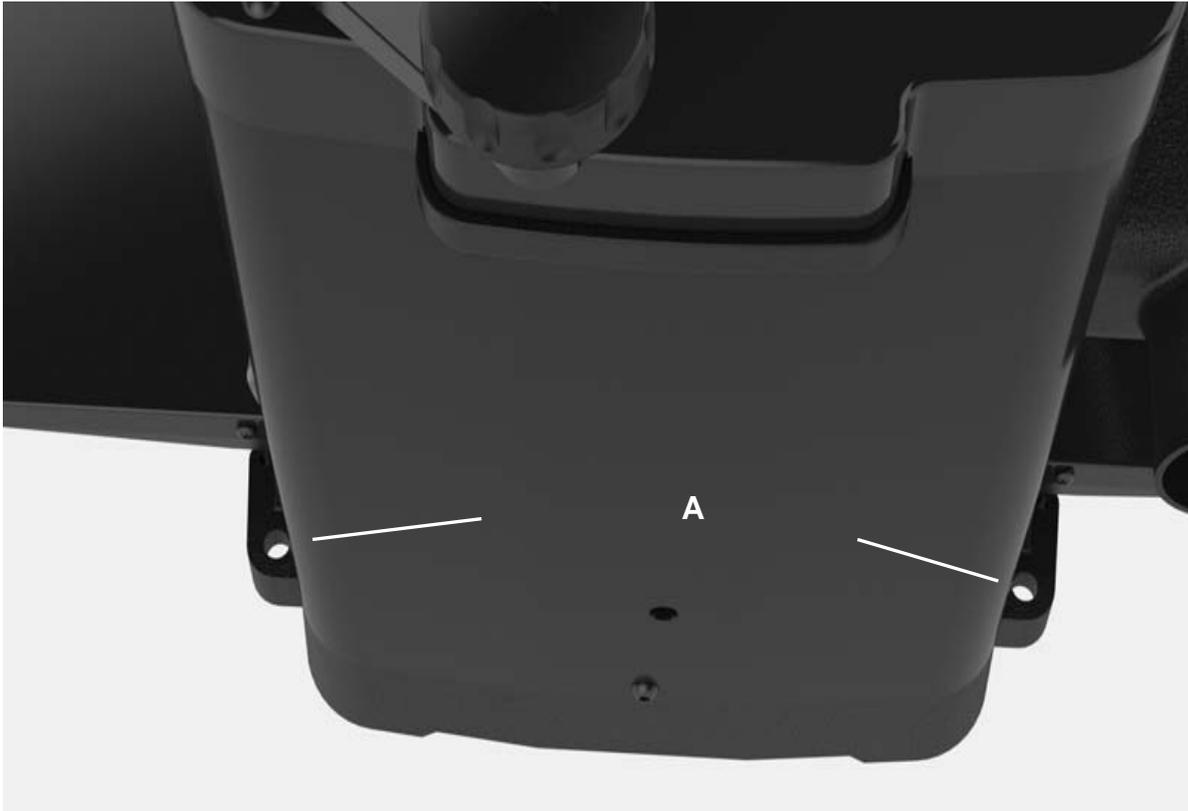

FIG 3
During operation, if there is any tendency for the planer to tip over, slide or walk, the planer MUST be secured to a supporting surface such as a workbench or table. Four holes are provided (2 are shown at (A)) to securely mount the planer. The surface you are mounting the planer to should be perfectly flat. SEE FIG 3.